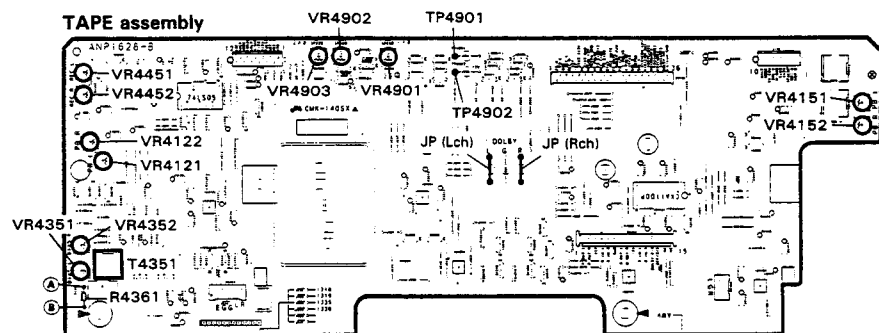

Fig. 6-4 Adjustment Points
- The adjustment location and the measuring location, refer to Fig. 6-4.